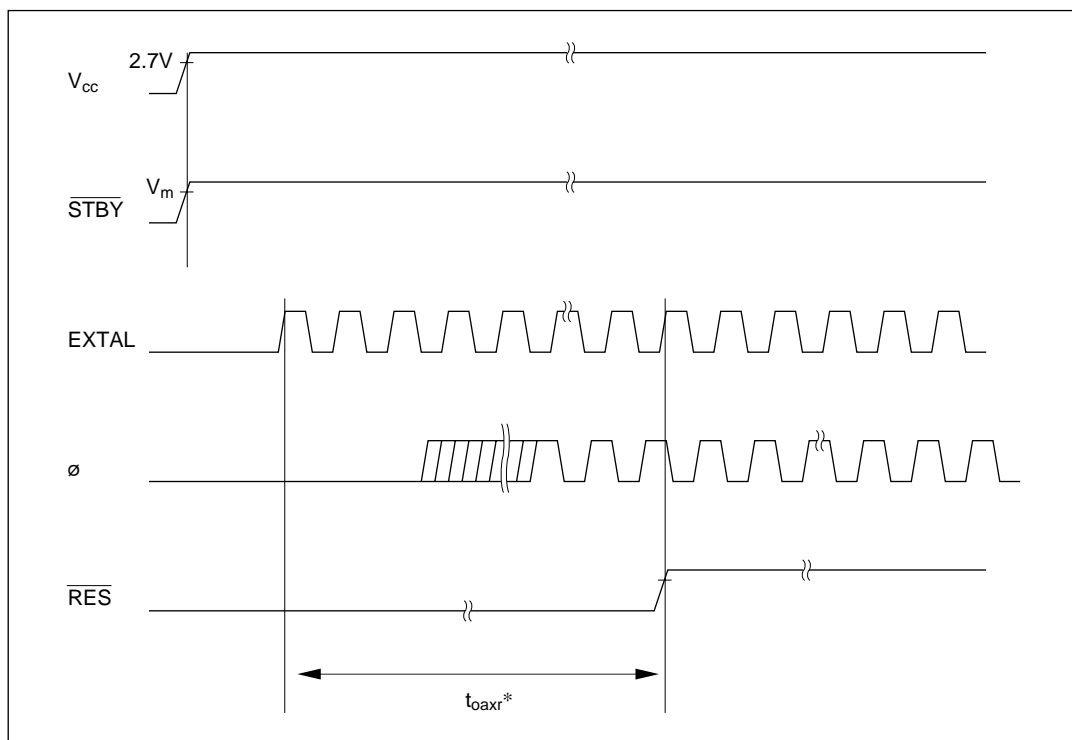

Figure 16-18 External Clock Output Delay Timing
16.3.7 External Clock Output Timing	Figure 16-18